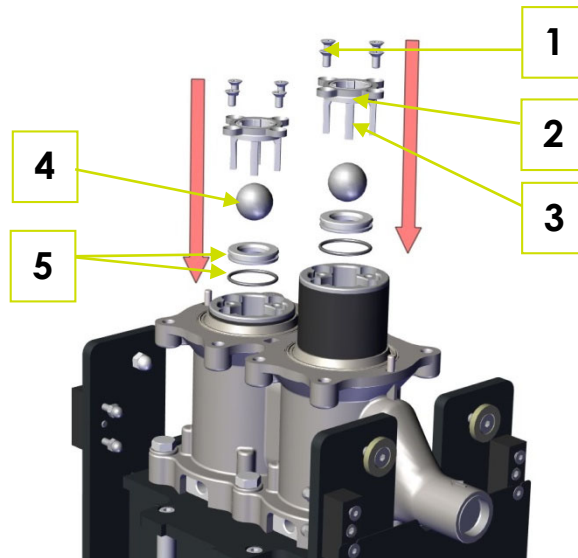

Fig. 6-2: Assembly of the media valves in the cylinder block
1. Insert new valve seats (5), greased with Renolit Unitemp 2 with new O-rings (Fig. 6-2: Assembly of the media valves in the cylinder block).
2. Insert both new balls (4) and cages (3).
3. Insert both retaining stars (2).
4. Clean all eight countersunk head screws M6x12 (1) and grease them with Renolit Unitemp 2.